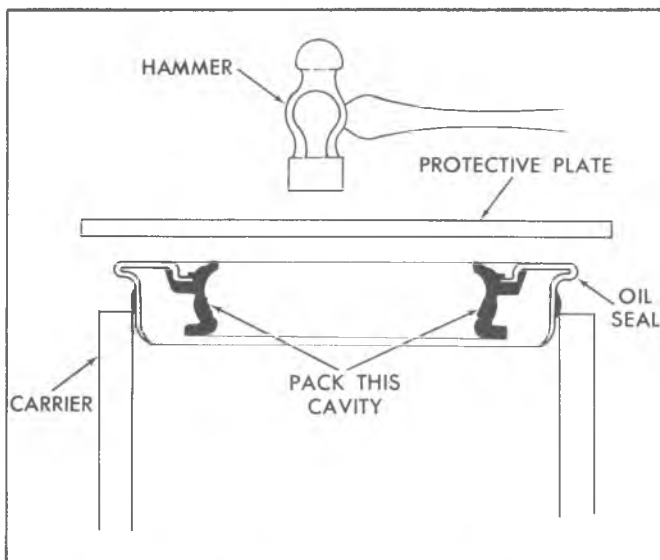

Fig. 25B—Installing Pinion Oil Seal—Passenger Car
2. **For Passenger Car** place a new pinion oil seal into position in carrier bore. Tap lightly with a protective plate and a hammer until seal flange seats against carrier, as shown in figure 25B.